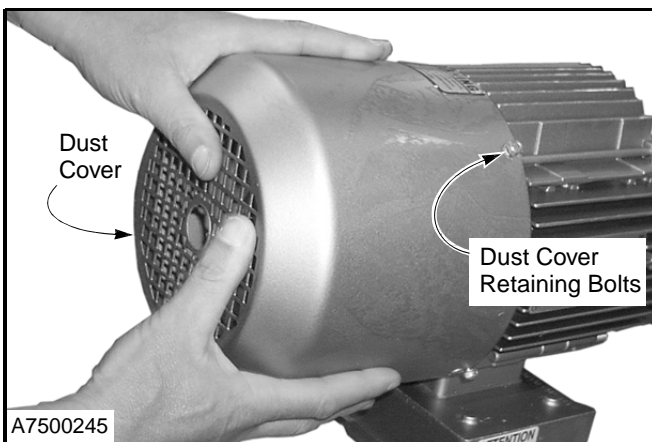

Figure 38
2. Loosen hex-head bolts retaining the dust cover to the motor assembly. Remove the cover. (See Figure 38)